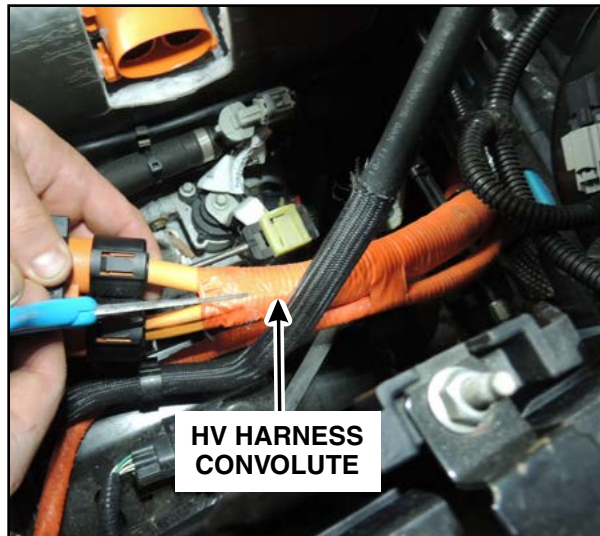

FIGURE 4a
3. Using a pair of round/blunt nose scissors, cut the single convolute between the wires down to the black tape at the dash bracket and discard the cut convolute. Peel back the convolute as you cut for better visibility. See Figures 4a, 4b and 4c.